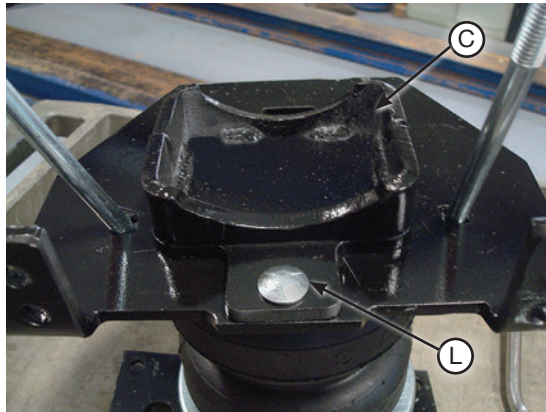

fig. D.12
- Install the lower bracket cup (C) onto the lower bracket main plate using the 5/16"-18 x 3/4" carriage bolt (L) (Fig. D.12). Cap with M8 flat washer (O) and 5/16"-18 nylon lock nut (Q) (Fig. D.13). Snug bolt down but leave loose enough for bracket to move freely in slot.